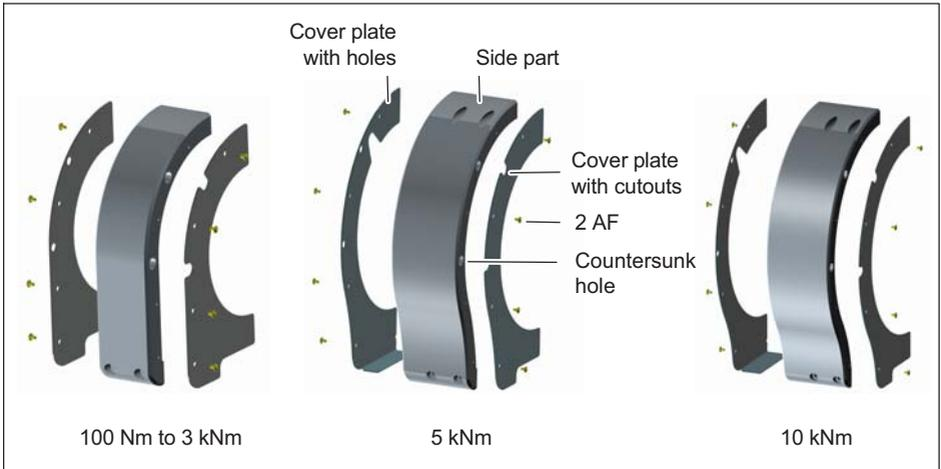

Fig. 8.7 Fitting the cover plates
4. Screw the cover plates onto the side parts (hexagon socket screws, 2 AF; tightening torque $M_A = 1 \text{ N} \cdot \text{m}$). Make sure that the cover plate with the cutouts is fitted on the side with the countersunk holes! (See Fig. 8.7.)